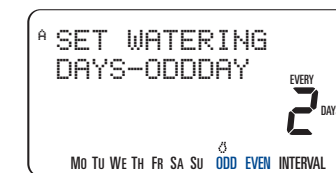

Figure 9: Selecting “Odd/Even Watering”
- Press **NEXT** until "ODD" flashes on the display. If you wish to water every odd day, press **ENTER** to confirm the programming. [See Figure 9]